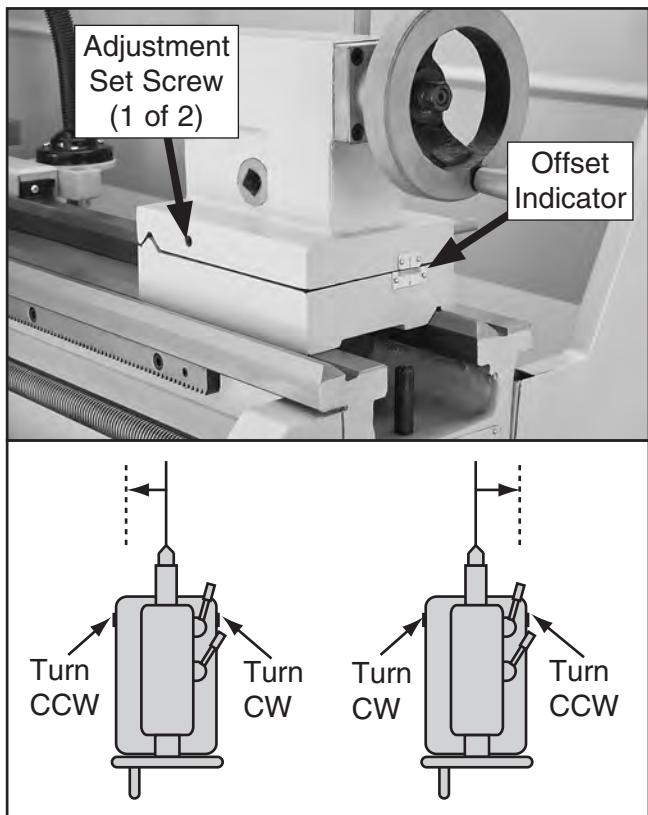

Figure 39. Set screw adjustment in relation to tailstock movement.
Note: The marks on the offset indicator (see **Figure 39** on the next page) are arbitrary. For a precise offset, use a dial indicator to check quill movement while adjusting the screws.
1. Rotate adjustment set screws (shown in **Figure 39**) in opposite directions for desired offset.